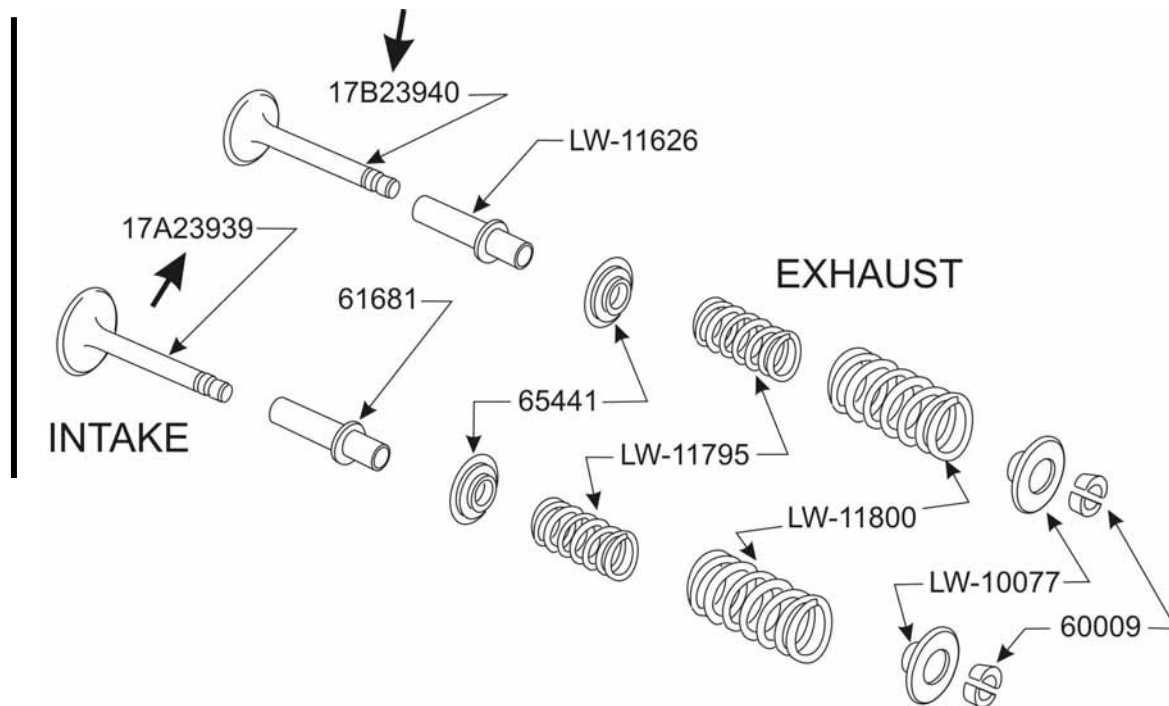

Figure 1. Intake and Exhaust Valve Components Showing Order of Assembly
7. Reassemble the cylinder using the new parts shown in the chart. See Figure 1 for proper sequence of components showing order of assembly.